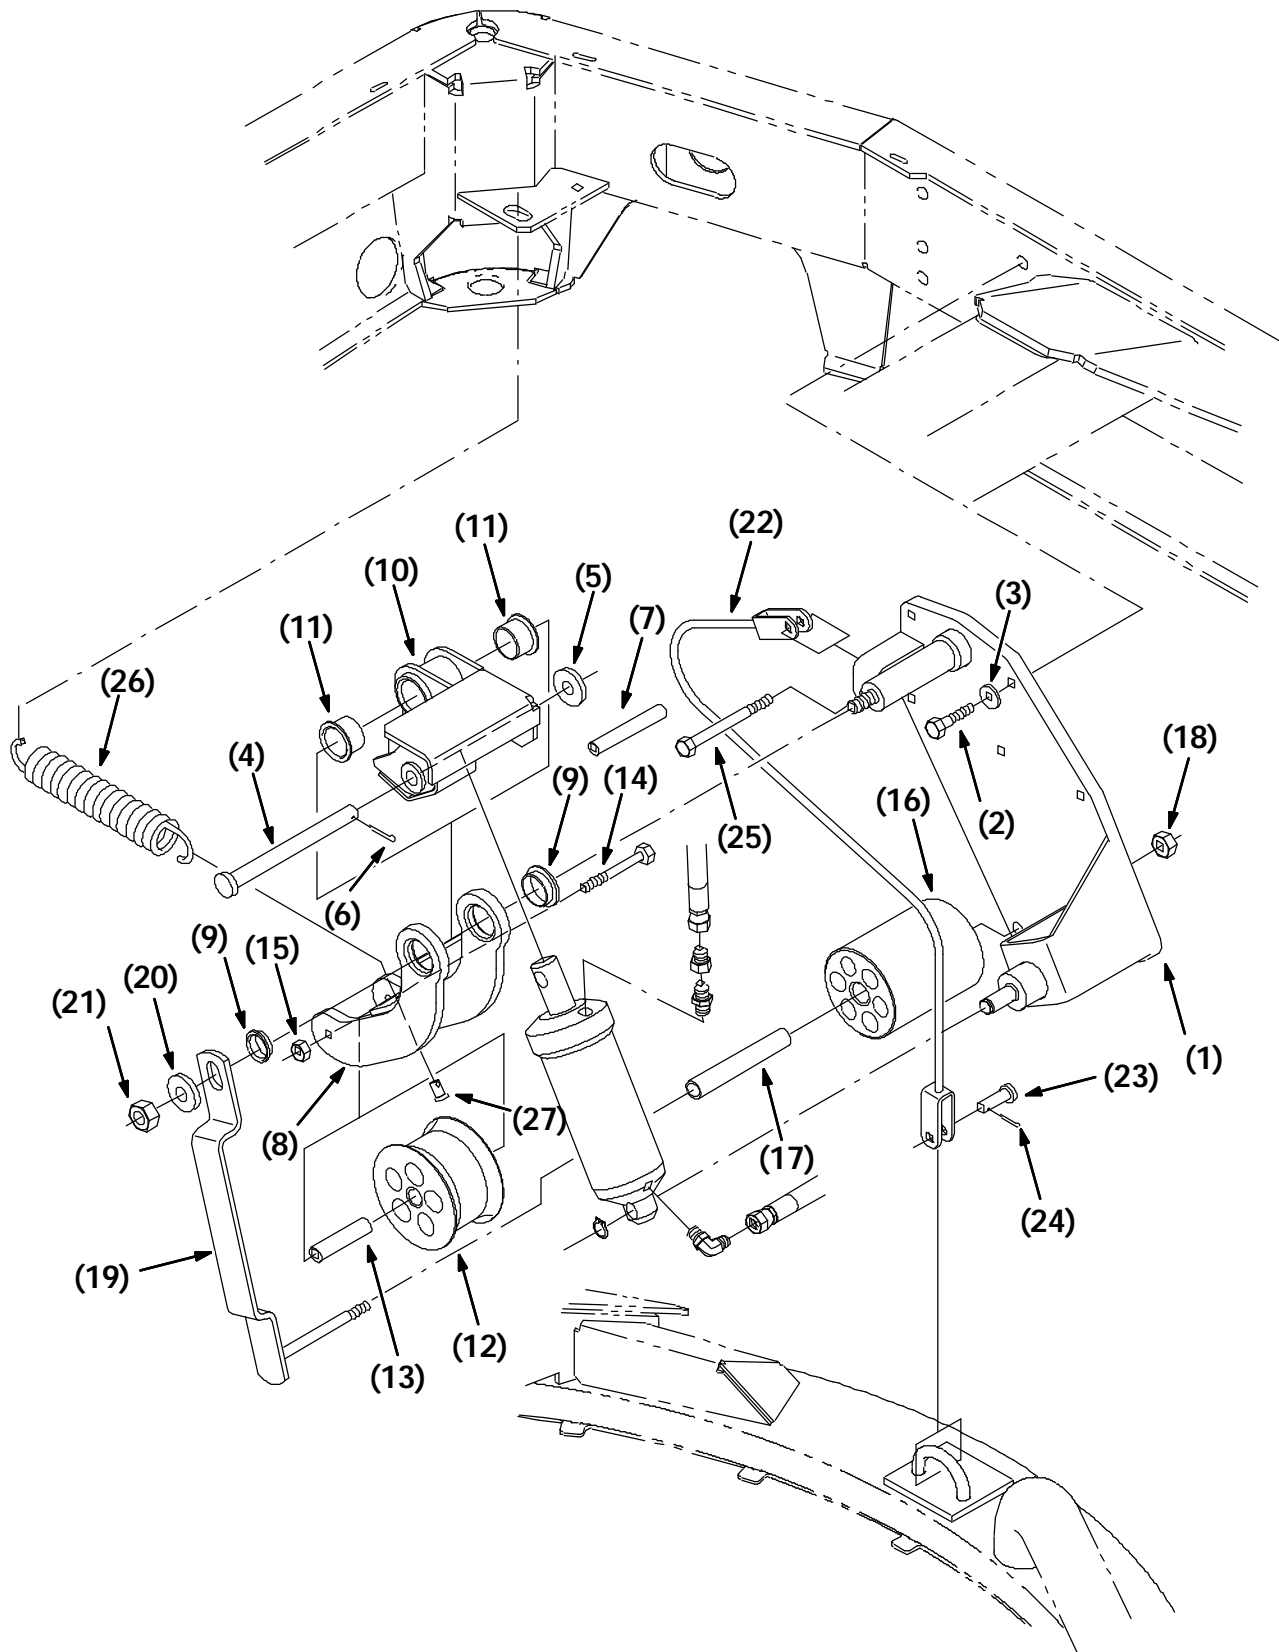
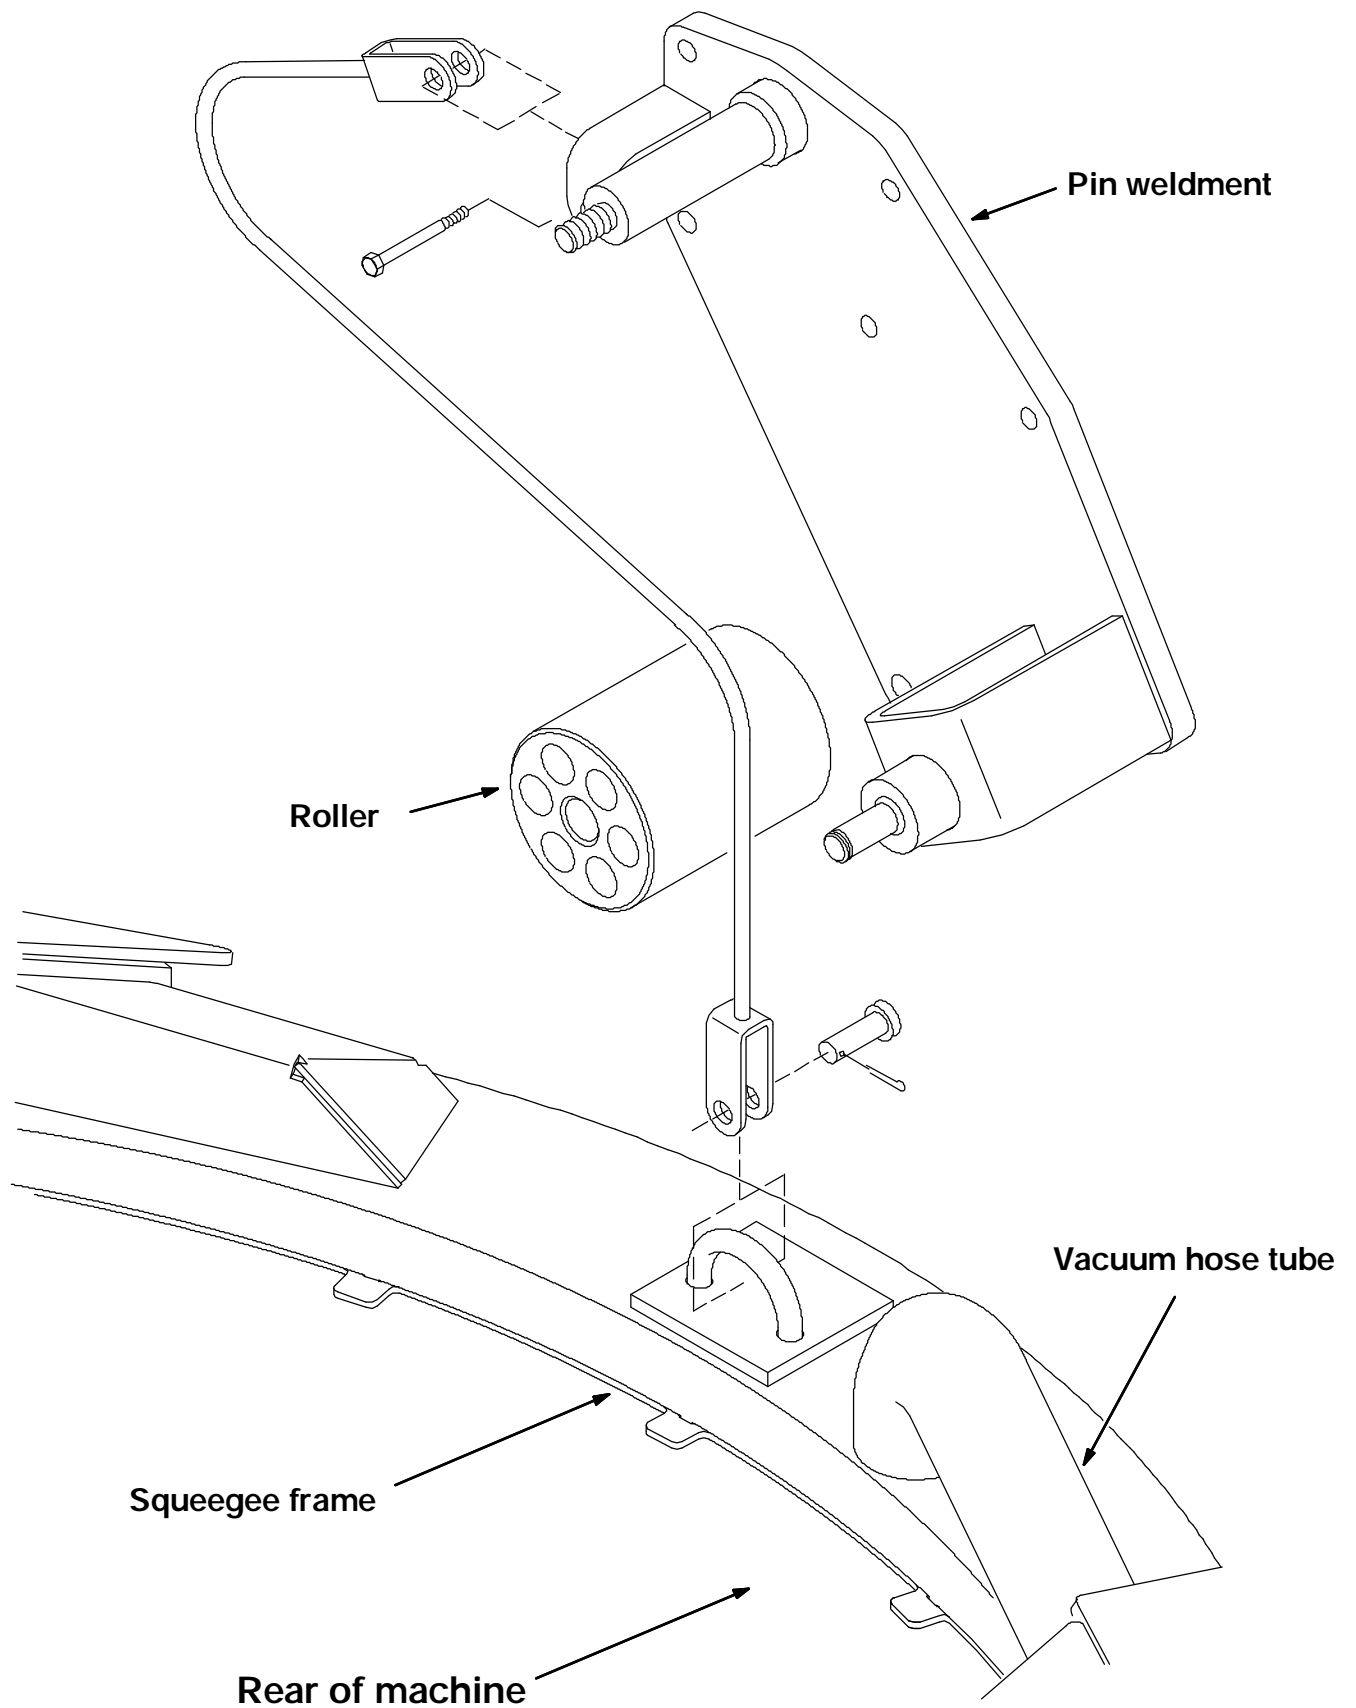

FIG. 1 - Rear Squeegee Lift Assembly.
FIG. 2 - Lift Cable Routing
(Refer to FIG. 1)
(Refer to FIG. 1 and 2)
1. Use the diagram in Fig. 1 to assemble the new rear squeegee lift parts.
2. Install the new lift assembly into the machine. Use the five new screws (2) and washers (3). Tighten to 18 - 24 Nm (15 - 20 ft lb).
3. Use the diagram in Fig. 2 to route the rear squeegee lift cable properly around the two rollers.